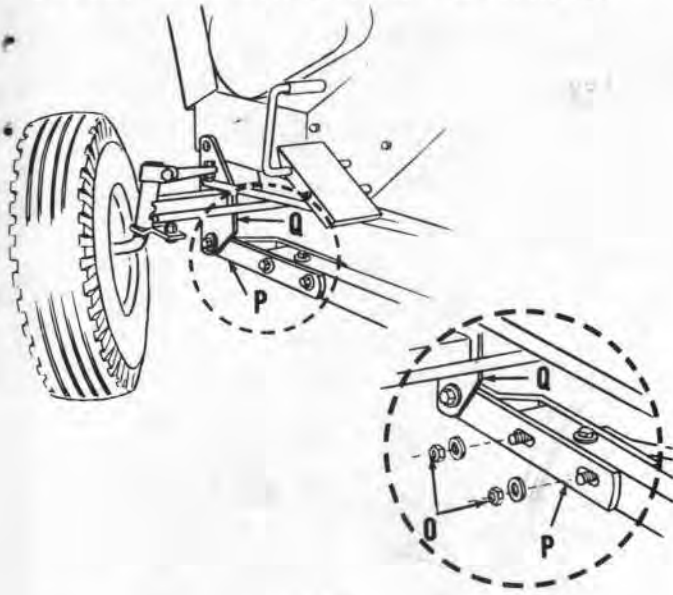

FIG. 4
5. Refer to Fig. 4. Insert remaining bushing shipped in bag of parts into hole in front frame straps (P). Secure front frame straps to tractor mounting bracket (Q) with a 5/8 x 2 finished hex bolt, flat washer 21/32 x 1-5/16 x 13 Ga., 5/8 lockwasher and hex nut shipped in bag of parts.